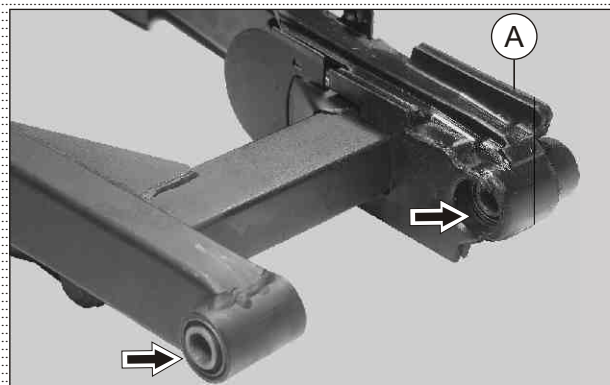

Fig. 6.133
- Take out buffer chain touch (A) from the swing arm assembly. (Fig. 6.133)
- Draw out both the bush swinging arm if required. (Fig. 6.133)